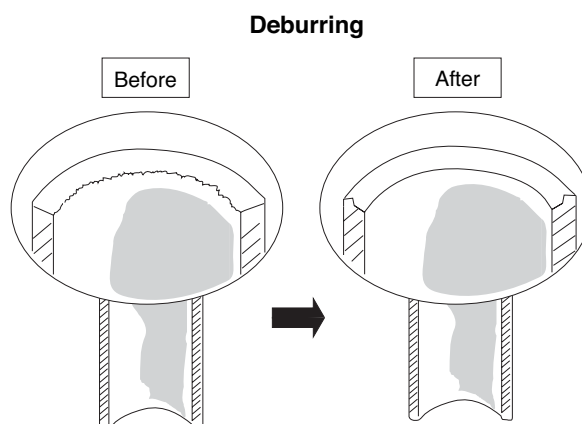

Fig. 8
- (1) Cut the copper tube to the required length with a tube cutter. It is recommended to cut approx. 30 – 50 cm longer than the tubing length you estimate.
- (2) Remove burrs at the end of the copper tube with a tube reamer or file. This process is important and should be done carefully to make a good flare. (Fig. 8)